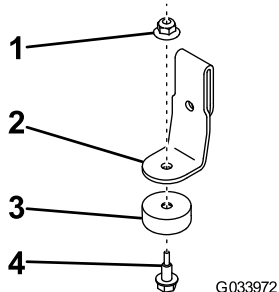

Figure 1
1. Attach the bumper to the stop mount using a shoulder bolt and locknut (Figure 1).